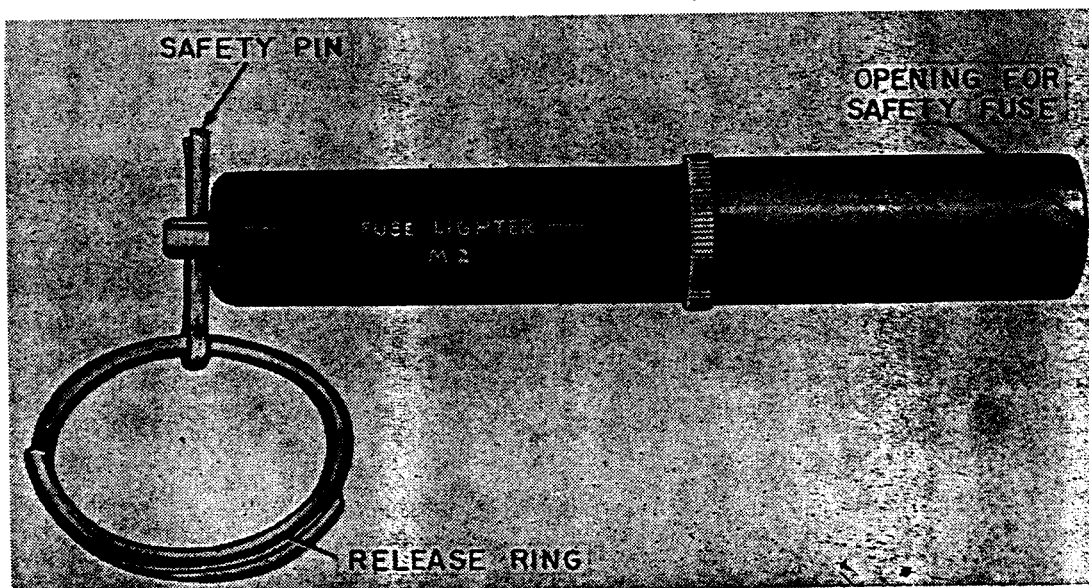

Figure 45. M2 waterproof fuse lighter.
- (2) The M2 waterproof fuse lighter (fig. 45) consists of a metal barrel which holds a firing mechanism, and a base which contains a percussion cap and a fuse retainer. When the striker-retaining pin (safety pin) is pulled, the striker hits the percussion cap, which in turn ignites the fuse. To operate the M2 waterproof fuse lighter:
- (a) Prepare the safety fuse as described in (1) (a) above and slide the fuse retainer over the end of the fuse.